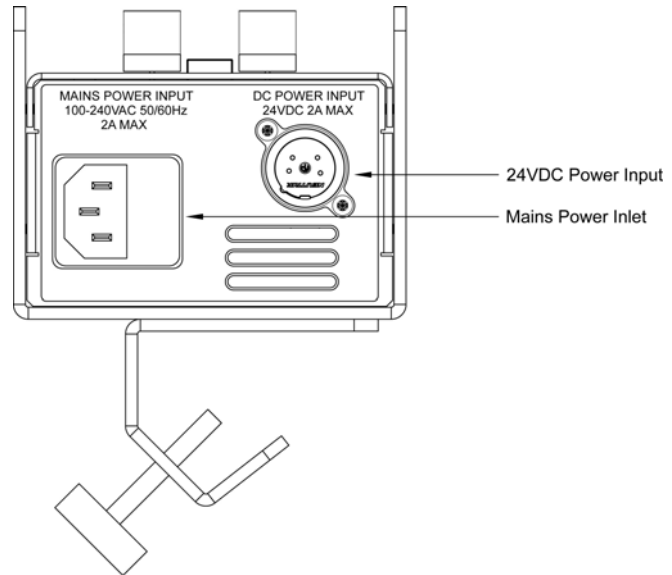

Figure 2, iW Blast 12 TR Controller, bottom view
3. Connect the provided IEC mains cable to the Mains Power Inlet (see figure 2), and plug the power cable's mains connector into a mains outlet. The POWER LED will light steadily.
Battery Cable's 4PXL R to the 24VDC POWER INPUT (see figure 2). The POWER LED will light steadily.